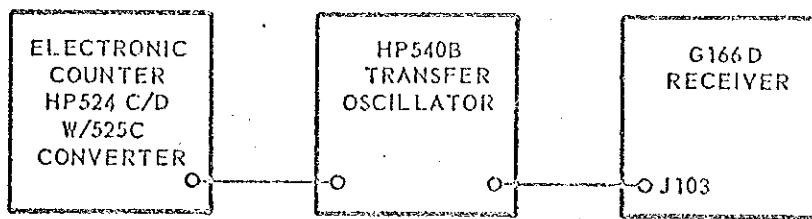

Figure 5-7
- a. Connect test equipment as shown in figure 5-7 and set BAND SWITCH in 220-500 MC position. Check dial accuracy at 220 mc, 360 mc, and 500 mc. Local oscillator frequency (as displayed by counter), should be the dial reading plus 60 mc ($\pm 1\%$ of dial reading).